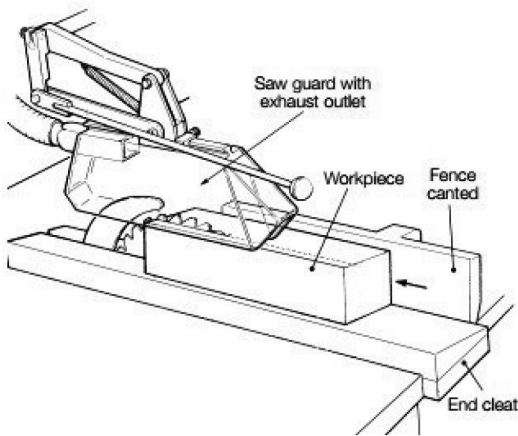

Figure 14
- 53 What cutting operation is aided using the jig shown in Figure 14?